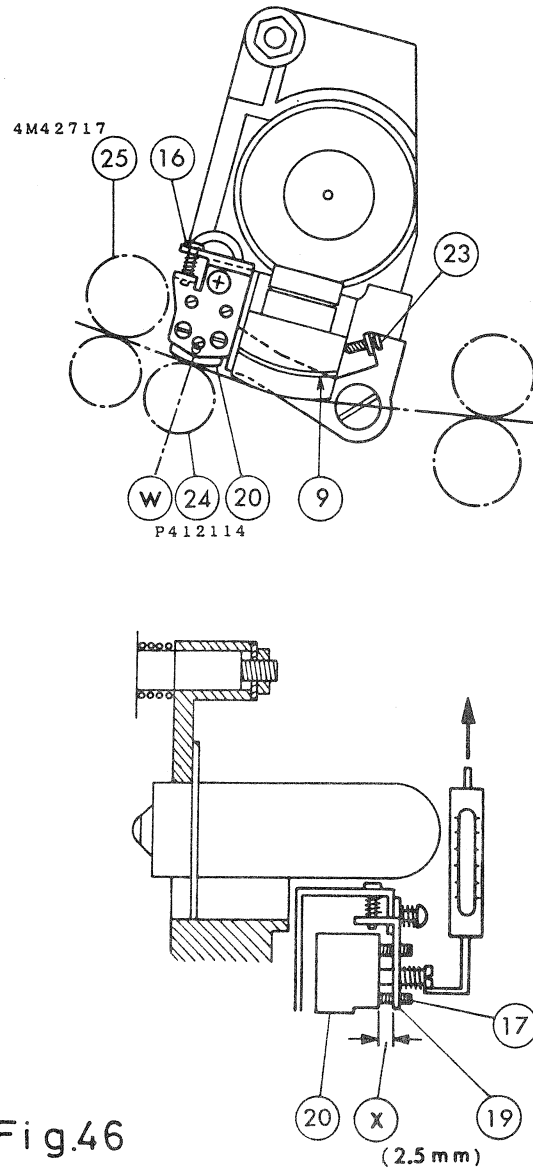

Fig.46
2. Adjust by means of the screw ⑬ so that the lead allowance of ⑫ extends out approximately 0.2mm on the pad roller assy ⑭ side from the virtual film feeding line connecting flywheel assy ⑮ to 9. (See Fig. 46.)
3. Make adjustment so that the center (gap) of ⑫ comes on the center line W of ⑭. (See Fig. 46.)
4. Adjust by means of 3 pieces of screws ⑰ so that the gap x between ⑫ and ⑰ is approximately 2.5mm. (See Fig. 46.)
5. Measure the tension of ⑫ at the position shown in Fig. 46 by using a bar spring balancer (C043). Adjust by bending ⑫ if the tension is higher or lower than the permissible tension range of 60~100g
6. After the adjustments in 2~5 are made, make the magnetic azimuth alignment film (P040) move at VR position allowing no distortion in output wave, and search for the position allowing no distortion in output is maximum by slightly turning (fine adjustment) the 3 pieces of screws ⑰, before fixing with screw lock.